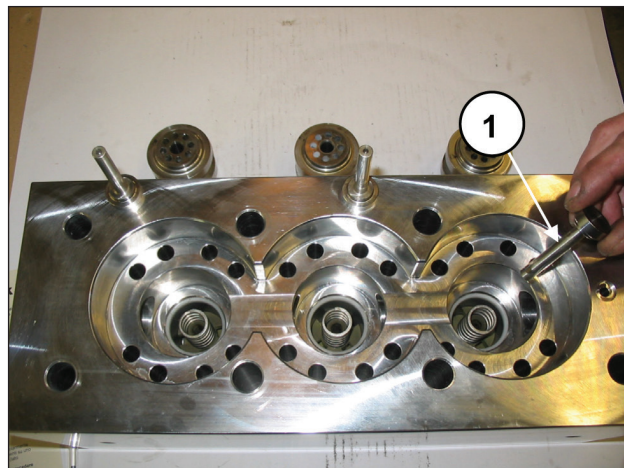
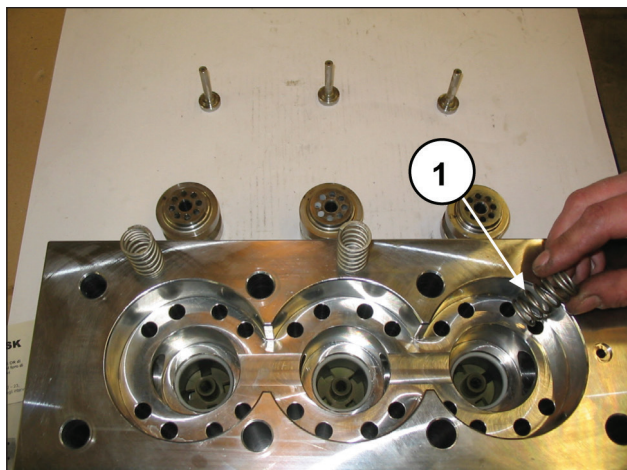
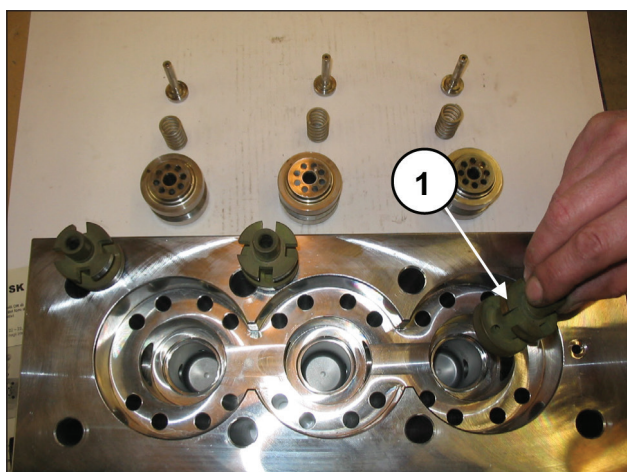

Fig. 117
Fig. 118
Fig. 119
Extract the outlet plates (pos. ①, Fig. 117), and their respective guides (pos. ①, Fig. 119), with their springs (pos. ①, Fig. 118). Check their conditions, replace if necessary and at the intervals necessary